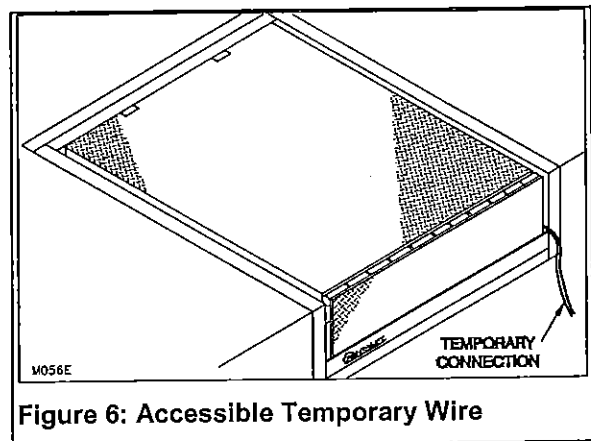

Figure 6: Accessible Temporary Wire
Note: Assure temporary wire is accessible through front of dock leveler. (See Figure 6, page 5)
4. Raise dock leveler by connecting the temporary wire from power supply to temporary wire supplied with dock leveler. (See Figure 6, Page 5)